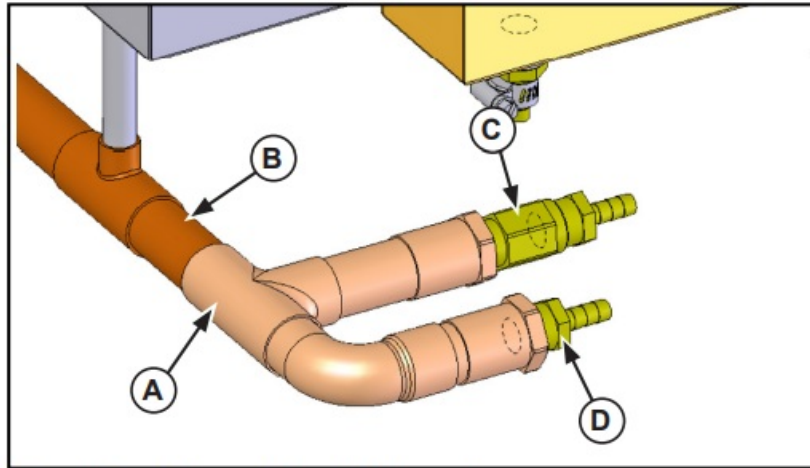

Figure 1. Drain Line and Manifold Assembly .
4. Solder the Auto-Fill manifold assembly (A) to the open end of the drain line (B) from step 2 making sure the auto fill manifold is level with the existing drain manifold. Figure 1.